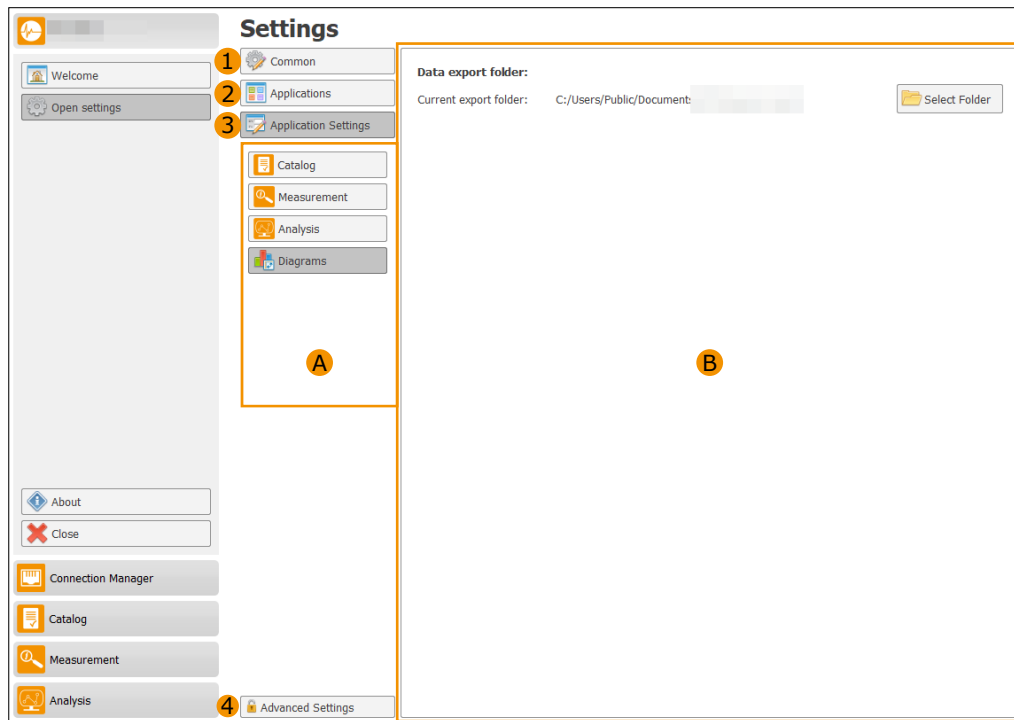

Figure A.5: General Application settings
The general application settings can be selected with button ③ in Figure A.5. Within this section all the available application settings can be found. These settings depends on the application that was detected during the loading of different libraries when starting the OHV Suite. When an application setting is selected on the the left side (cf. ① on Figure A.5) the setting can be modified.